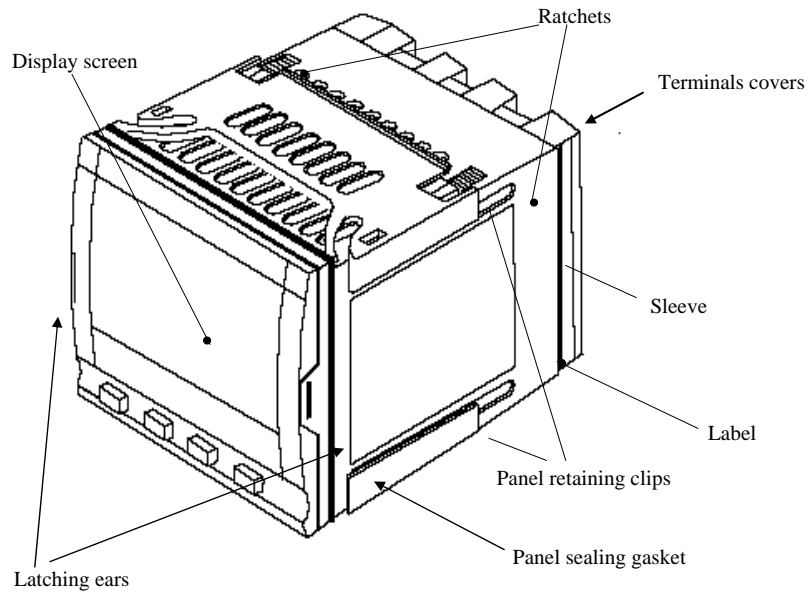

Figure 1-1
1. Prepare the control panel cut-out to the size shown in Figure 1-1.